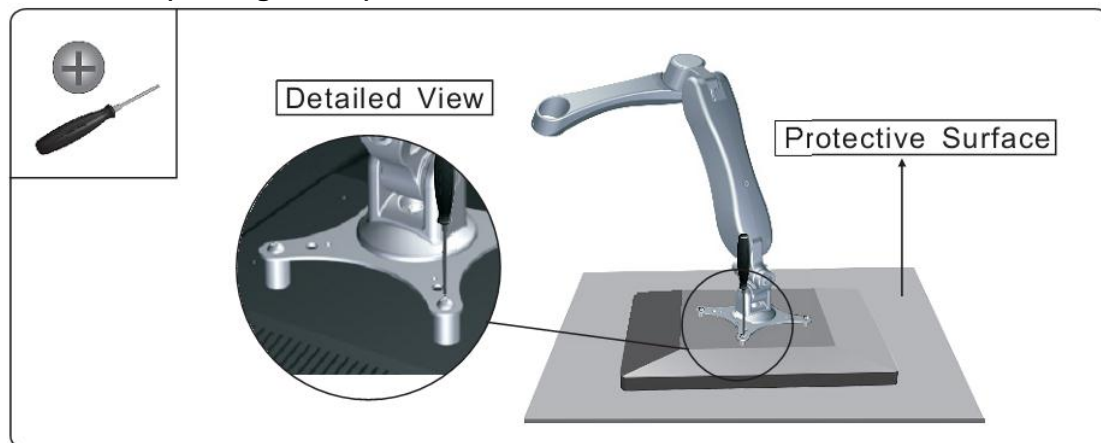

Figure 2-3
5. Using a Philips Screwdriver, install selected Screws **(6, 8)** through mounting holes on Tilter Mount Bracket and Spacers **(4)**, and into the display monitor. Tighten Screws with Philip Screwdriver so the Tilter Mount Bracket is firmly attached to the display monitor. Do not over tighten the Screws. Stop immediately if you encounter any resistance **(See Figure 2-3)**.